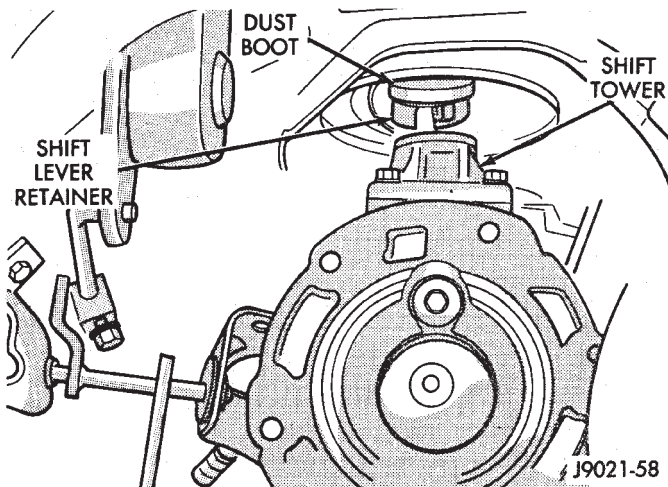

Fig. 6 Removing/Installing Shift Lever
- (6) Remove slave cylinder from clutch housing.
- (7) Disconnect transmission shift lever as follows:
- (b) Reach up and around transmission case and unseat shift lever dust boot from transmission shift tower (Fig. 6). Move boot upward on shift lever for access to retainer that secures lever in shift tower.
- (d) Lift lever and retainer out of shift tower (Fig. 6). **Do not remove the shift lever from the floorpan boots. Leave the lever in place for later transmission installation.**